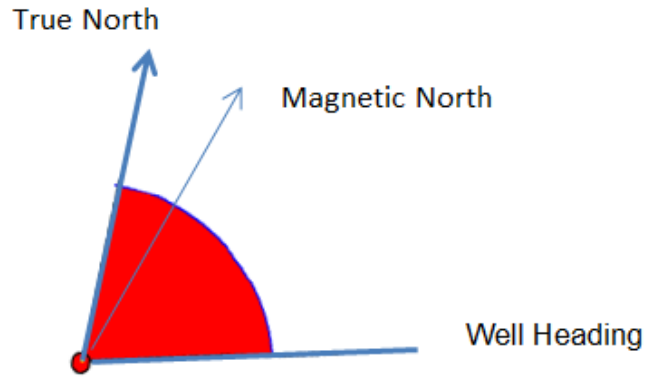

Figure 58 Declination Correction
2. In the Example below (Figure 58)